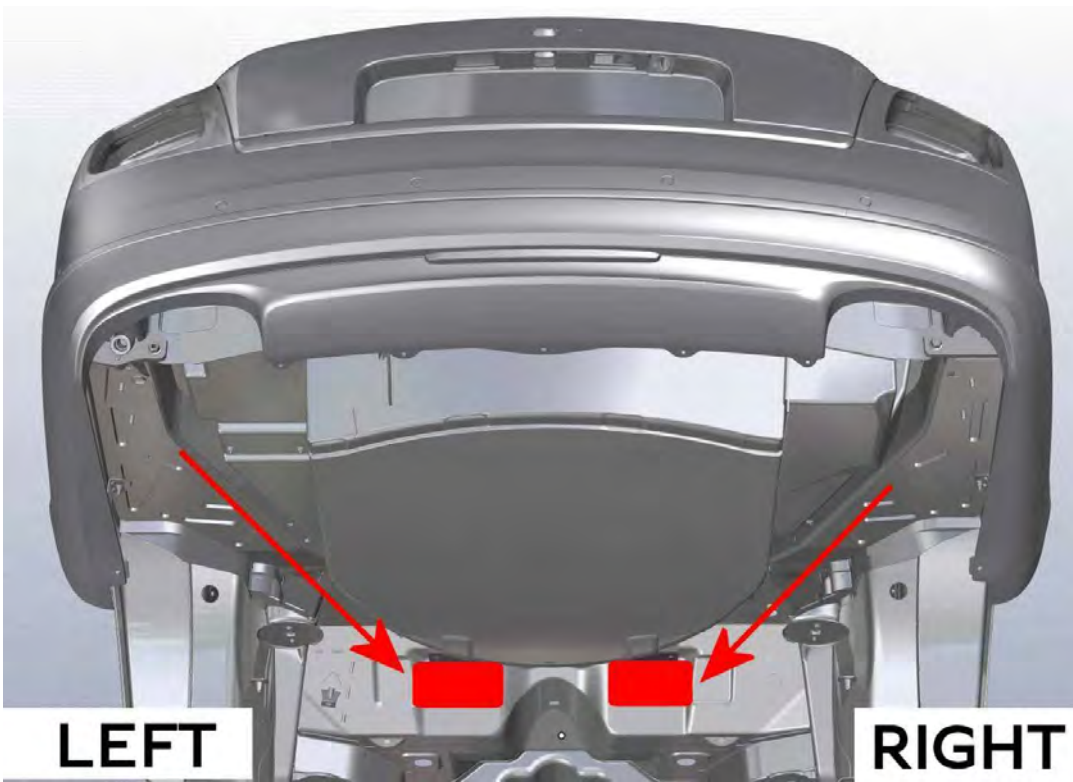

Figure 16
5) The next part of the procedure details how to remove specific amounts of underseal from the locations shown in Figure 16